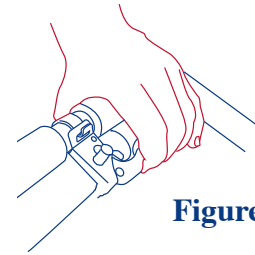

Figure 19.
- The front wheel has a bicycle style caliper brake system that is designed to assist you in slowing the stroller on a hill or in the event of an emergency. Squeeze the brake handle to slow the stroller. See figure 19. The hand brake is not to be used as a parking brake. Please see brake section.